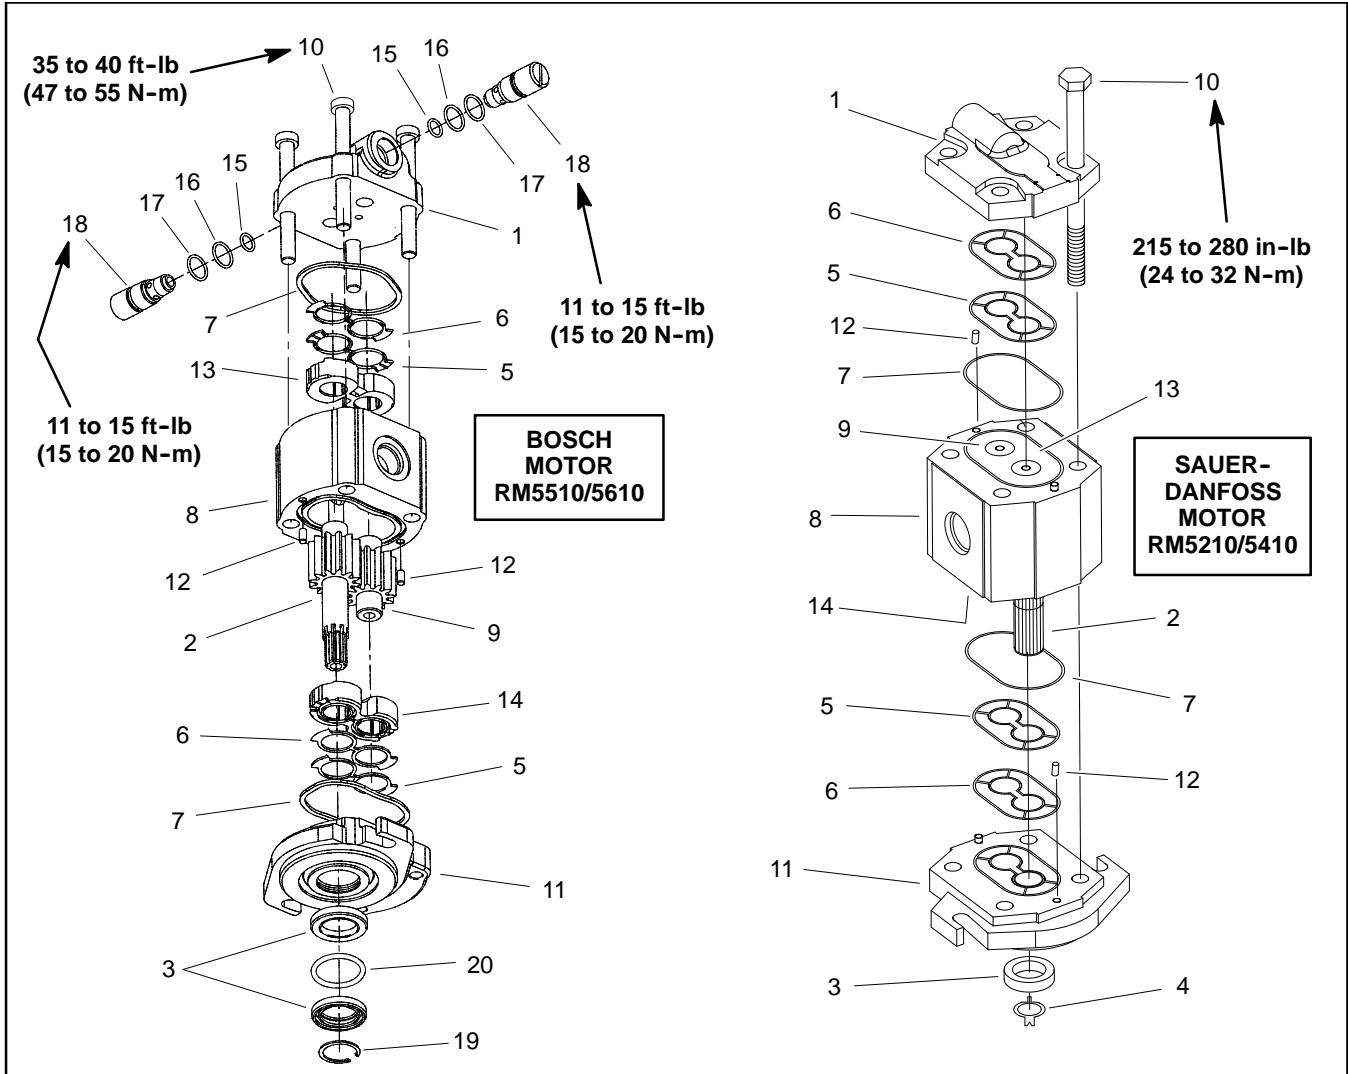

Figure 83
Disassembly (Fig. 83)
Assembly (Fig. 83)
12. Place motor front flange in a vise and alternately torque the cap screws to the specifications identified in Figure 83.